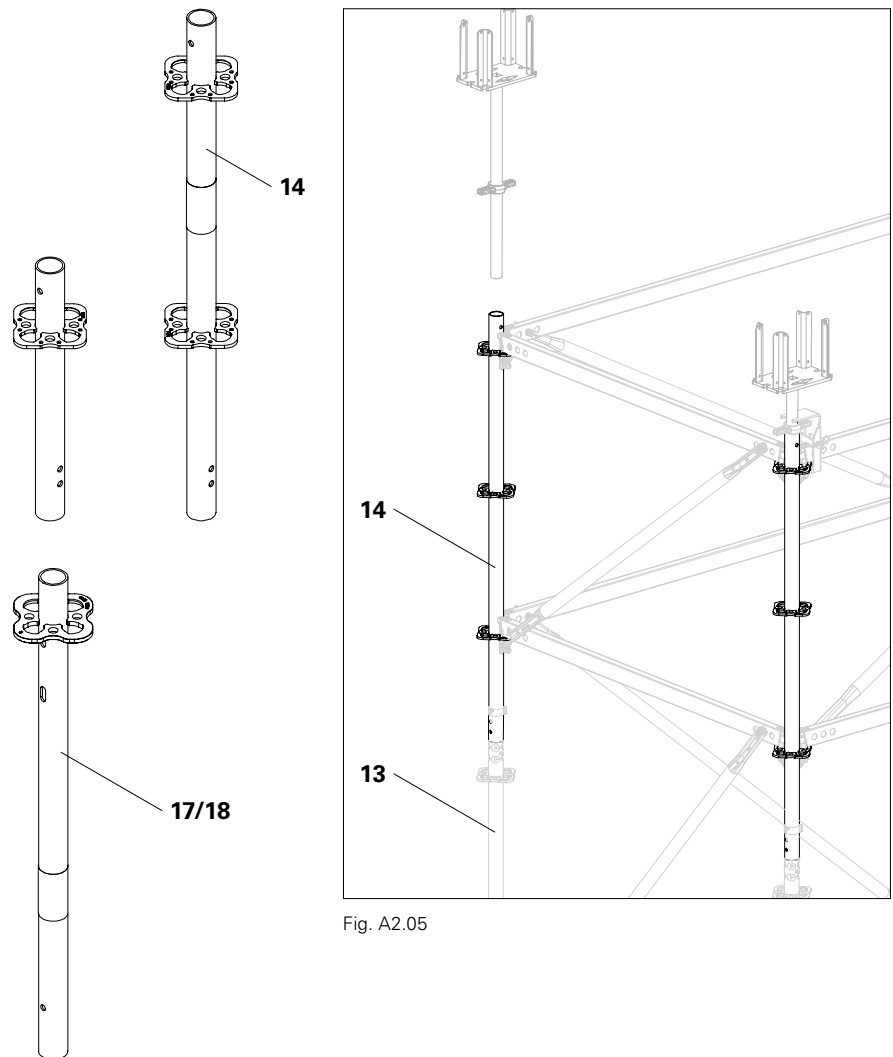

Fig. A2.05
1. Put the Top Standard UVH-2 (14) on the Standard UVR-2 (13).
2. Align the insert holes with each other. (Fig. A2.05)